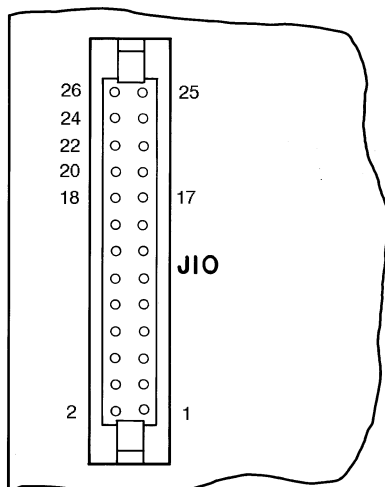

Fig. 52 — Display Board Pin Terminal Connector (J10)
5. Place the other lead on terminals shown in table below, and check voltage at pin terminals on pin terminal connector J10 (see Fig. 52 for pin terminal connector J10 details):